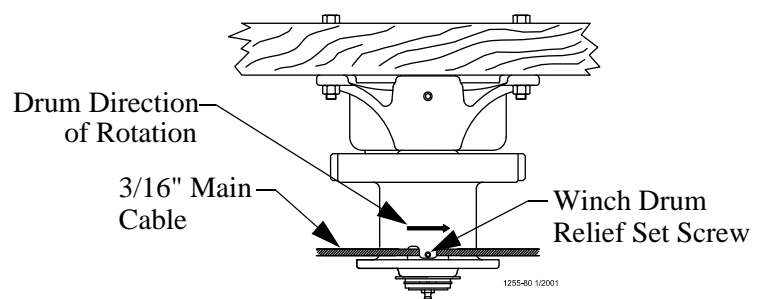

Figure 14. Attach cable to winch
2. Route the cable through the winch drum relief located near the bottom of the drum. Tighten the set screw to anchor the cable to the drum, see **Figure 14**.